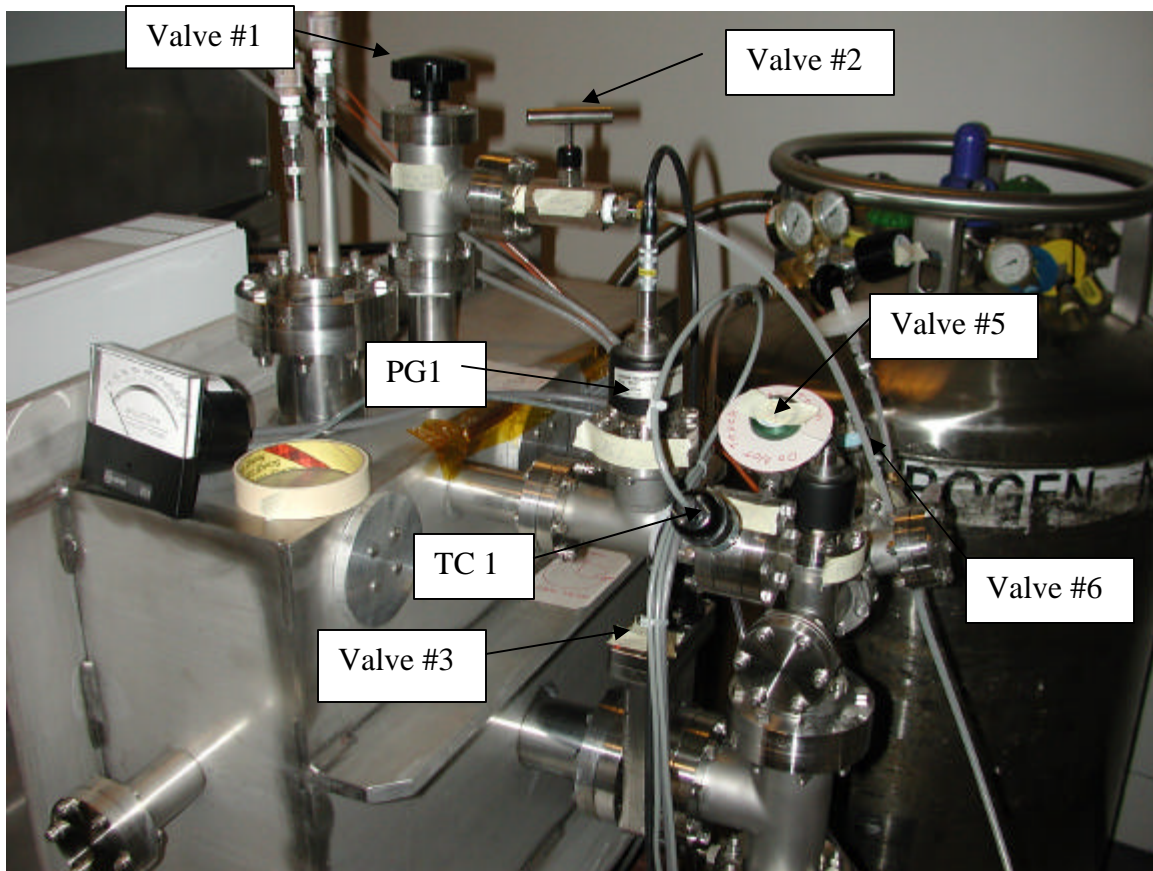

Figure 1. Chamber Valves and components
4. Shut off High Vacuum gauge controller and unplug cable from the gauge head(PG1 and PG2). See figures 1 and 5.